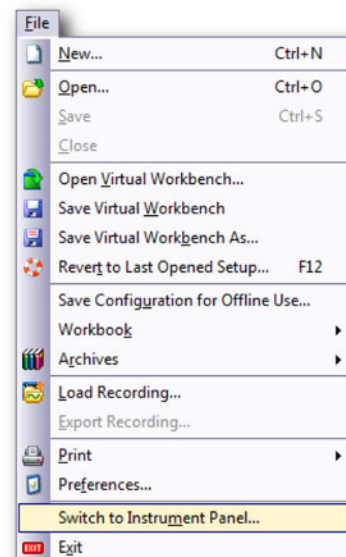

Figure 6.9: Switch to Instrument Panel option
- C Instrument Panel** The Instrument Panel GUI which is default for a GEN2i and GEN3i. For more information refer to Figure 6.9 "Switch to Instrument Panel option" on page 75.